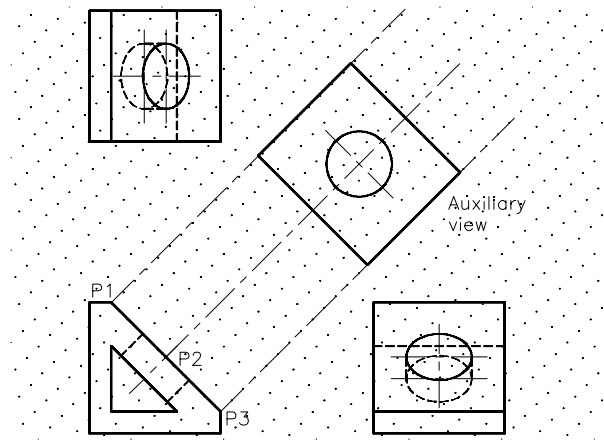

Figure 22-85 Auxiliary, front, side, and top views
3. Turn **ORTHO** on, and project points P1, P2, and P3 from the front view onto the auxiliary plane. Now you can complete the auxiliary view and give the dimensions. The projection lines can be erased after the auxiliary view is drawn (Figure 22-85).